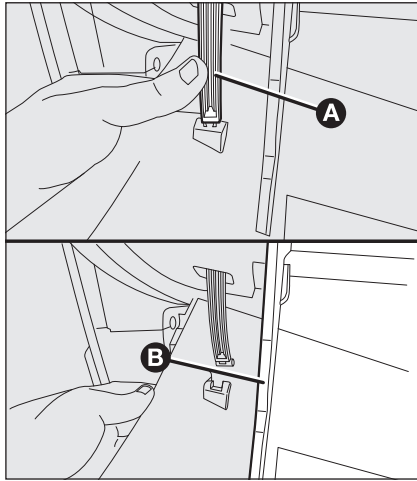

fig. 48a
Fuse box on the dashboard fig. 48a/48b (right hand drive versions)
- pull the two pins inwards **A-fig.48a**;